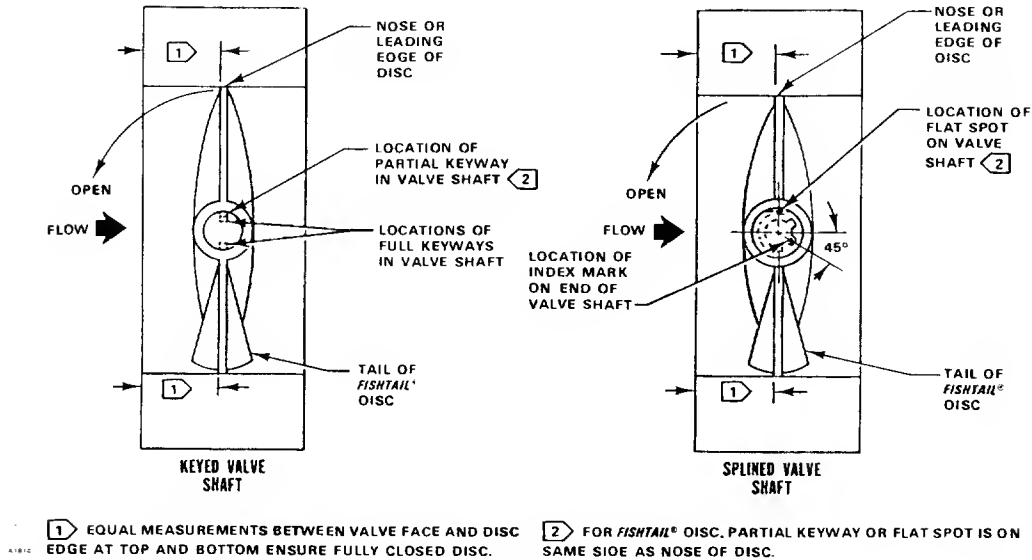
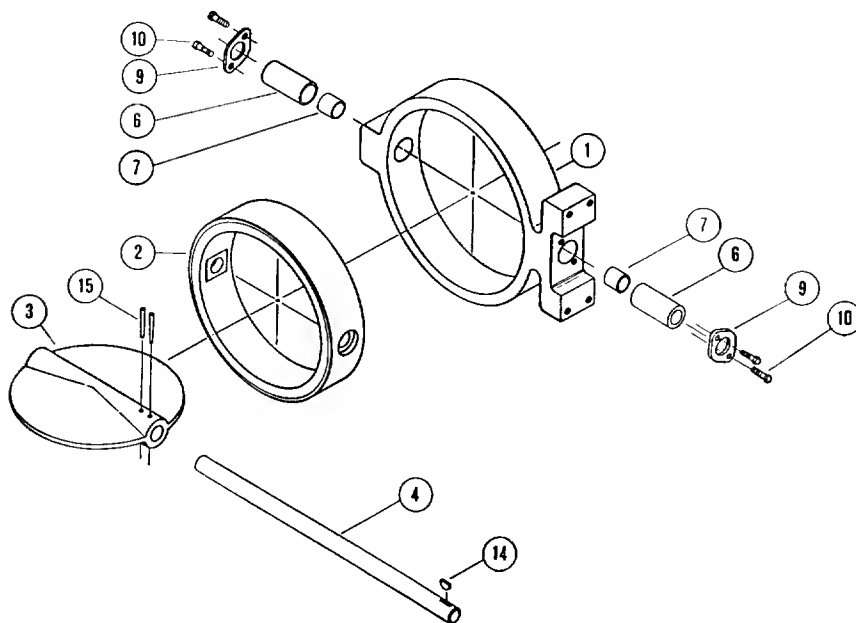
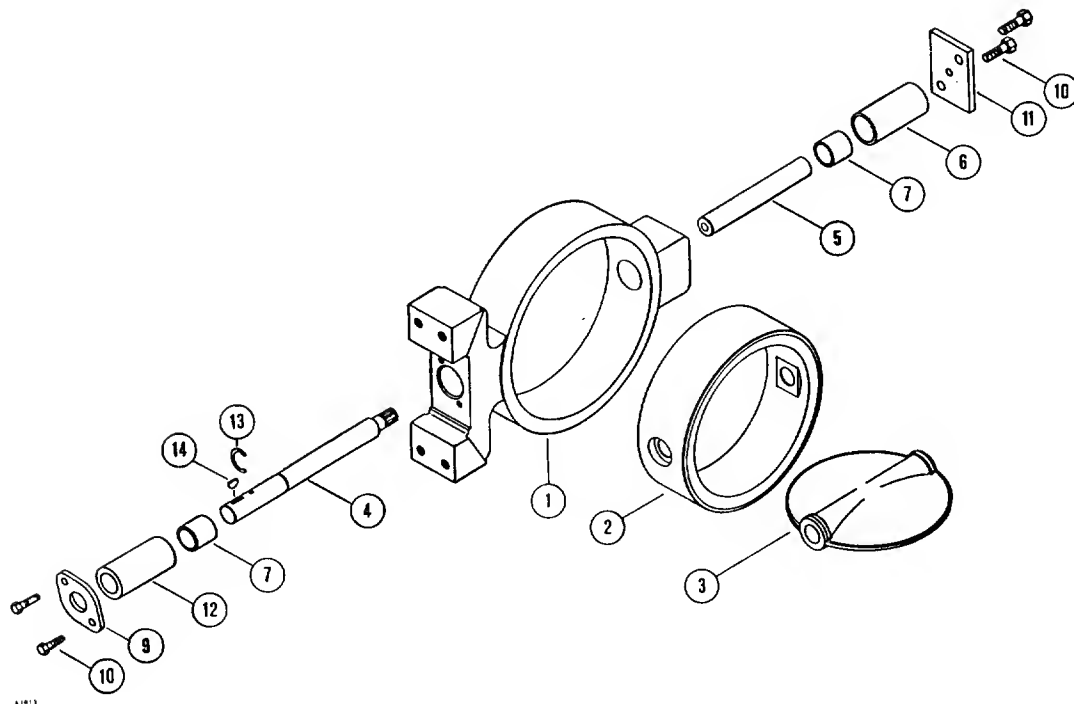

Figure 2. Valve Shaft Marking
Figure 5. Uncoated Disc Construction with Keyed Valve Shaft
Figure 6. Coated Disc Construction with Keyed Valve Shaft
FLOW DIRECTION	Conventional Disc: Either direction Fishtail Disc: Tail of disc (as shown in figure 2) to open into downstream side of valve
5. For conventional discs, flow may be in either direction; for Fishtail discs, flow direction must be such that the tail of the disc (as shown in figure 2) will rotate into the downstream side of the valve.
To check the linkage adjustment, refer to figure 2. On the valve shaft (between the valve and actuator) is a partial keyway (keyed valve shafts) or a flat spot (splined valve shafts). This keyway or flat is cut in the same plane as the disc edge. For Fishtail discs, the keyway or flat is on the same side of the shaft as the nose or leading edge of the valve disc (as shown in figure 2). When the valve disc is at the 0-degree position, the keyway or flat will be either
top-dead-center or bottom-dead-center in relation to the valve body. The top-dead-center position is shown in figure 2. A more accurate check of the 0-degree disc position can be obtained by removing the valve from the pipeline.
With the valve removed from the line, position the actuator to the valve-closed end of travel. Measure the distance between the valve face and the top and bottom edges of the disc as shown in figure 2. The disc is at the 0-degree position if the two measurements are equal.
2. If necessary, pry flanges apart so that liner faces will not be damaged when valve is being removed. Inspect the disc (key 3) and liner (key 2) for wear or damage.
4. From both sides of valve, unscrew thrust-plate cap screws (key 10) and remove thrust plates (key 9, figure 5; keys 9 and 11, figure 6).
- c. Remove disc (key 3) from body. For 8, 10, and 12-inch sizes, remove the spacer that was located between power and idler shafts in the disc.
6. Remove bushing sleeves (key 6, figure 5; keys 6 and 12, figure 6) from body. If desired to replace bushing inserts (key 7), remove old bushing inserts from sleeves.
7. Remove liner (key 2) from body.
1. If new bushing inserts (key 7) are to be used, press new inserts into bushing sleeves (key 6, figure 5; keys 6 and 12, figure 6).
2. Insert liner (key 2) into body. A small amount of silicone grease applied to the outside surface of the liner will aid insertion of the liner. However, do not use grease if the valve is to be used for oxygen service.
c. Insert disc (key 3), bushing sleeves (key 6, figure 5; keys 6 and 12, figure 6), bushings (key 7), and shaft (key 4) into the body. Be sure bushings engage the liner recesses to ensure proper liner positioning. Rotate disc to closed position.
3. Insert bushing sleeves and bushings into body. Be sure that the bushings enter the liner recesses to align the shaft holes. This can be accomplished by temporarily inserting the shaft(s) (key 4, figure 5; keys 4 and 5, figure 6).
4. For uncoated discs only, complete the following lettered steps. A new disc and shaft should be installed if the taper pin holes have been widened by loosening of taper pins (key 15).
If a new shaft (without disc) has been purchased, be sure to mark the shaft to indicate disc position as shown in figure 2.
Be certain that the partial keyway, flat, or zero mark on the end of the shaft is positioned as shown in figure 2.
e. Install disc and shaft into body. Be sure the keyed or splined end of the shaft is on the actuator side of the body, that the direction of taper in the taper pin holes match, and that the partial keyway or flat spot is positioned as shown in figure 2.
a. Insert disc (key 3) into body. Be certain the female disc spline is on the actuator side of the body. Position the disc at the closed position.
b. Making certain the partial keyway, flat, or spline marking is positioned as shown in figure 2, install C-ring (key 13) on drive shaft (key 4) and insert drive shaft into actuator side of body and disc.
d. Insert idler shaft (key 5).
6. Attach thrust plates (key 9, figure 5; keys 9 and 11, figure 6) with cap screws (key 10). When tightening cap screws, do so in small increments, alternating from one cap screw to another and from one valve side to the other. Tighten cap screws until thrust plates contact the bushing sleeves snugly. Then, rotate the cap screws enough to move the thrust plates 1/32 inch closer to the valve body.
1. Rotate the valve disc to the closed position. To ensure that the disc is fully closed, measure the distances between the valve face and the top and bottom edges of the disc as shown in figure 2. The disc is at the 0-degree position when the two measurements are equal. Rotate the disc slightly if necessary to make the measurement equal.